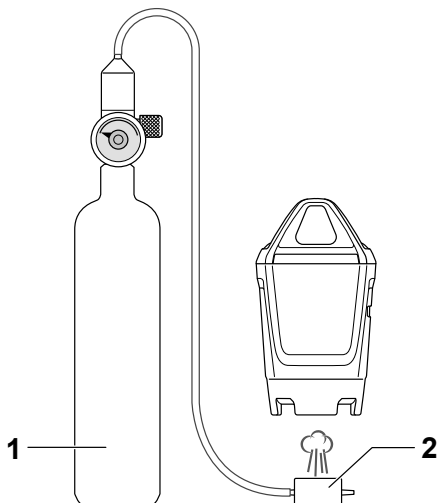

Fig. 1 Test gas cylinder (1), test gas adapter (2)
1. Connect the calibration adapter (Fig. 1/2) and test gas cylinder (Fig. 1/1) with the hose.